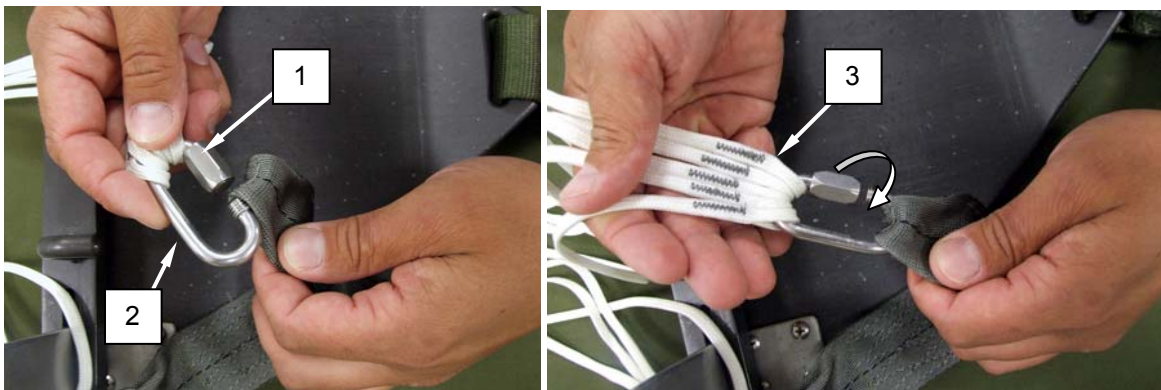

Figure 58. Replace Connector Links.
2. Using an adjustable wrench, loosen barrel nuts (Figure 58, Item 1) on connector links (Figure 58, Item 2) and remove risers.
3. Remove suspension lines (Figure 58, Item 3), starting with left riser groups then right riser groups attached to connector links (Figure 58, Item 2) and discard unserviceable links.